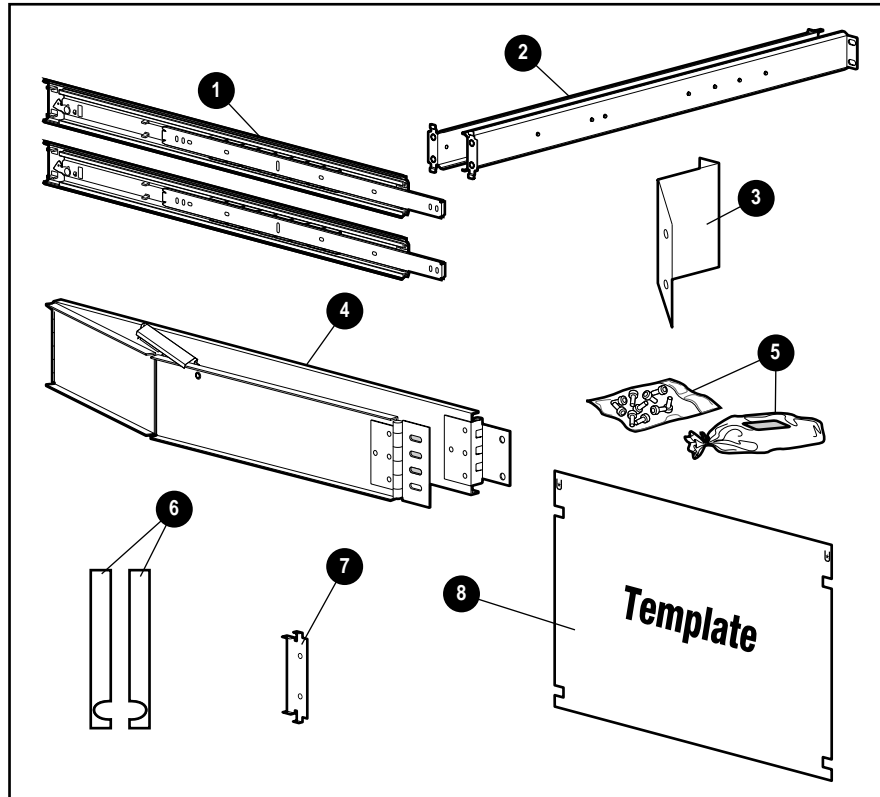

Figure 3-1. Rack mounting hardware included with the server
- Rack mounting hardware (numbers reference Figure 3-1)
- ❶ One pair 26-inch slide rail assemblies
- ❷ One pair slide rail mounting brackets
- ❸ Cable management arm server bracket
- ❹ Cable management arm
- ❺ Mounting hardware
- ❻ Plastic rail covers (2)
- ❼ Cable management arm rack bracket
- ❽ Template to mark the rack for proper attachment of the rack mounting brackets